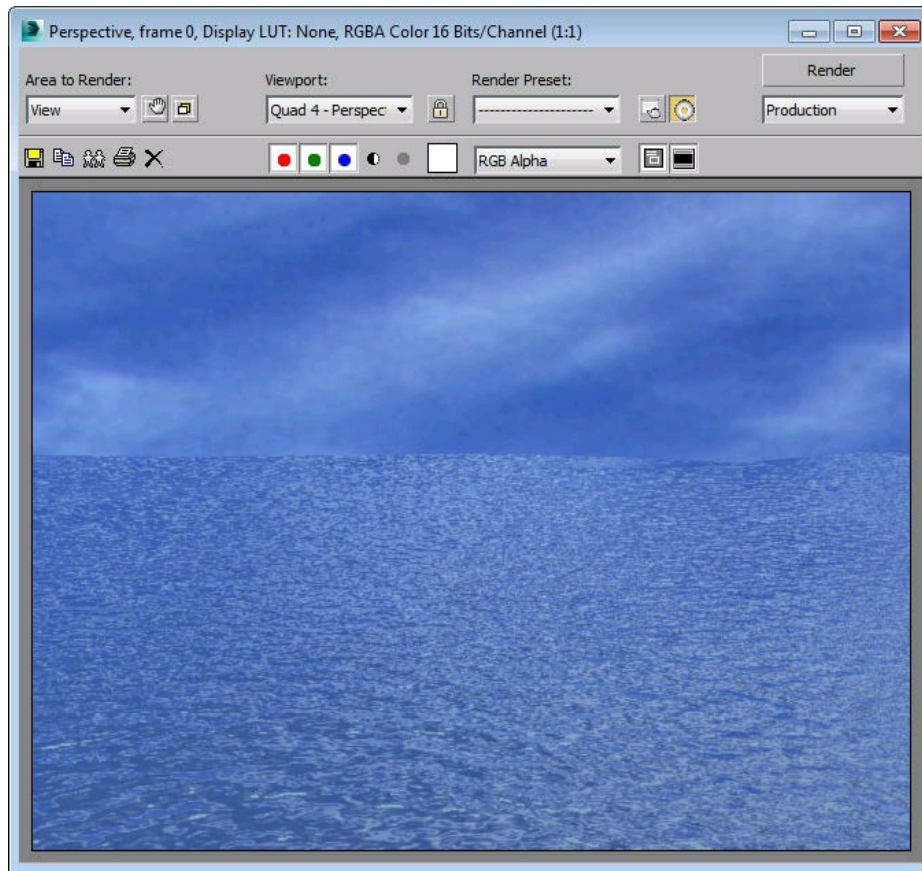

Figure 12-90 The final output of the scene after rendering
2. Choose the **Render Production** tool from the **MainToolbar**; the rendered image is displayed. The final output of the scene at one frame is shown in Figure 12-90.